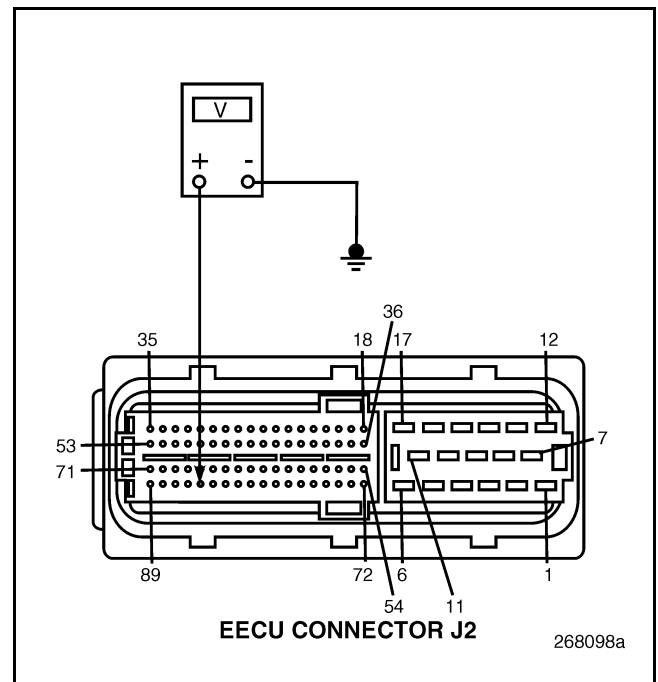

Figure 822
5. Measure the voltage from EECU harness connector J2 pin 85 to a good ground (see Figure 822).